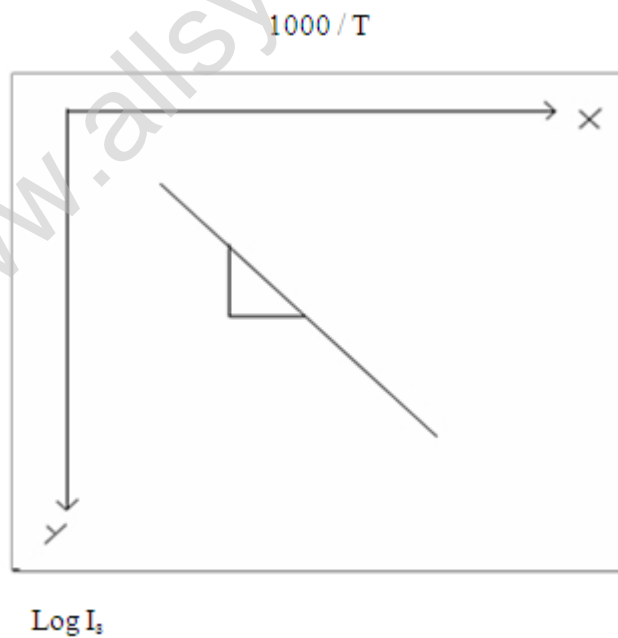

Fig1.2. Variation of current with inverse temperature in a reverse biased pn -diode
- A graph is plotted taking $1000/T$ along x axis and $\log I_s$ along negative y axis (Fig.1.2), (Since I_s in the order of micro-ampere, $\log I_s$ value will come in negative).